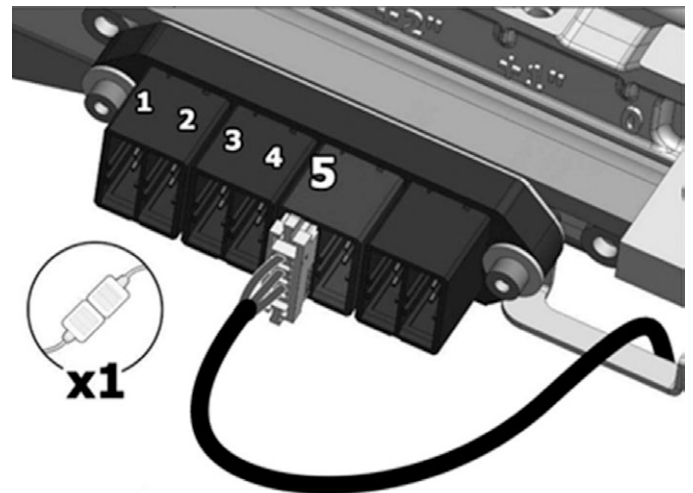

Figure 176. The Tilt Motor Cable is connected to the fifth position of the connector block.
4. Disconnect the Tilt motor cabling from the contact block at the seat frame. Release the cable from its cable brackets on the right hand side of the seat. See fig. 176 Make note of how the cable is assembled with consideration to subsequent assembling. See *AP Elevator Tilt Motor Cabling*, Page 79.